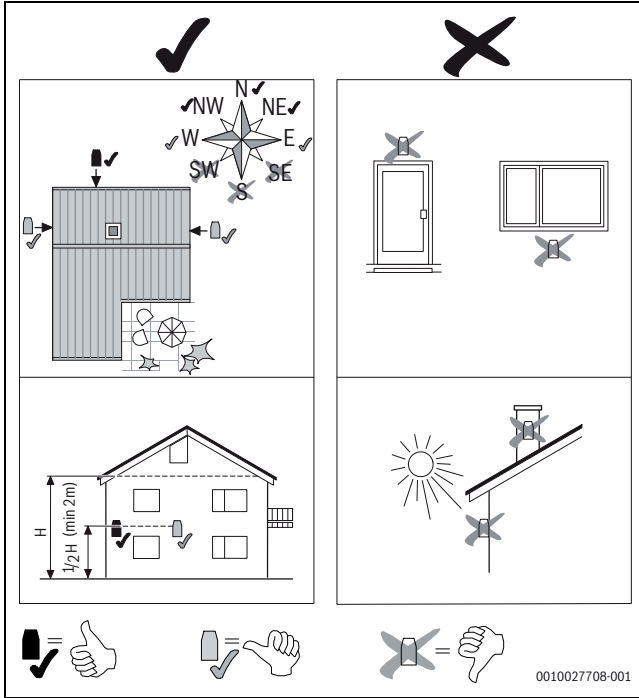
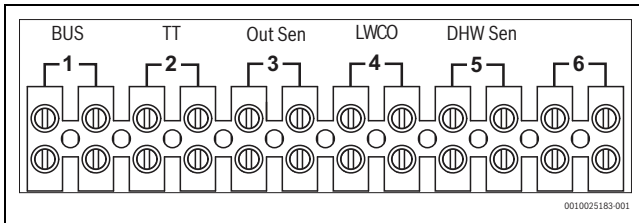

Fig. 65 Outdoor reset sensor optimum positioning indicated by black tick
Fig. 66 Connect Outdoor sensor to "Out Sen" number 3
- ▶ Ensure Outdoor sensor is installed according to → Fig. 65 and connected as indicated in → Fig. 66 if no outdoor sensor is detected/ fitted the error code CC will be shown.